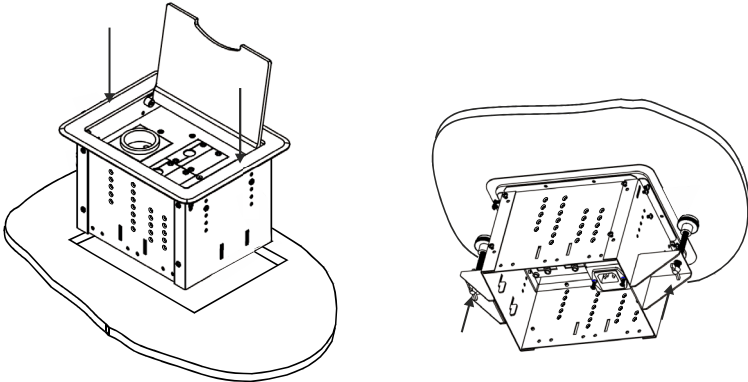

Figure 9: Inserting TBUS-1AxI into the Prepared Opening
2. Carefully insert the unit into the prepared opening (see Figure 9).
5. Tighten both mounting butterfly screws upward until they reach the table surface (from underneath). Tighten firmly (see Figure 9).